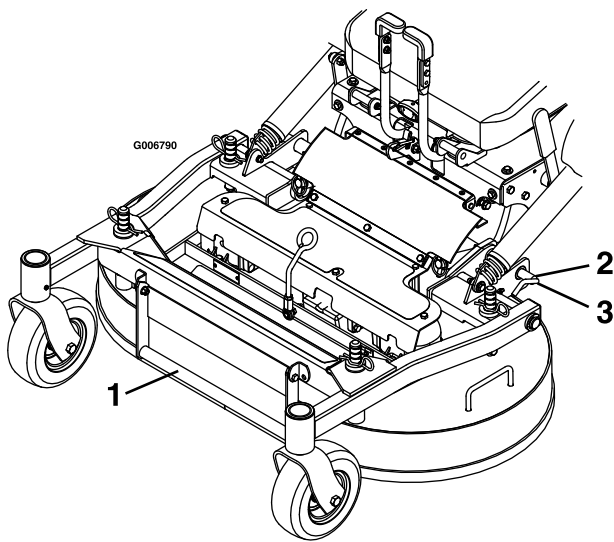

Figure 6
14. With the deck locking pins pulled out in the unlock position, carefully lower the deck (Figure 6).